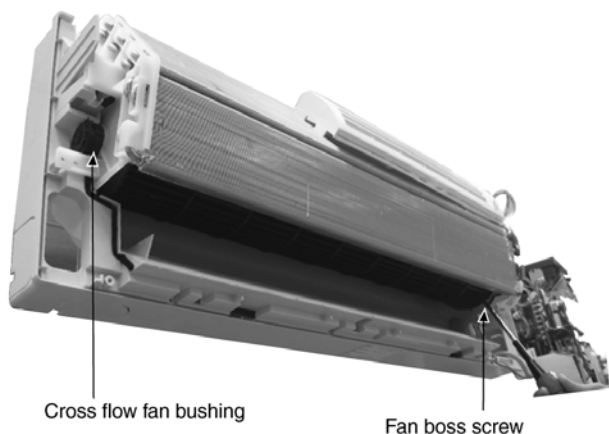

Fig. 9
- Remove the cross flow fan bushing from the chassis. (Fig. 9)
- Loosen the fan boss screw at the cross flow fan. (Fig. 9)